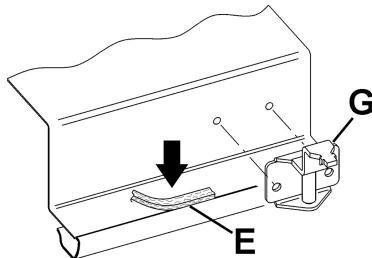

FIG. 6
- remove the clamps "G" from the package and install them as in the diagram in fig. 6.
- put the gasket "E" (fig. 6) in the correct position under the edge of the worktop, so that the outer side of the gasket fits perfectly with the external perimeter of the worktop. The ends of the strips must fit without overlapping;